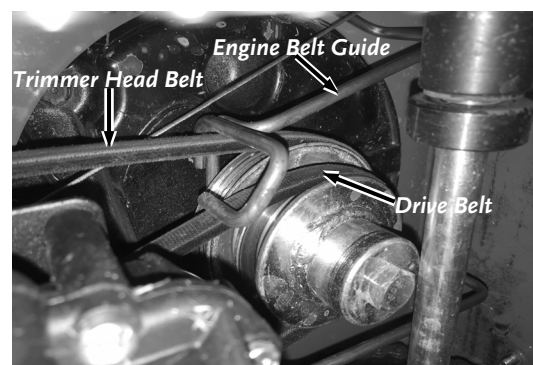

Figure 41
**Note:** Ensure that the Belts are positioned properly in reference to the Belt Guides (**Figure 41**).